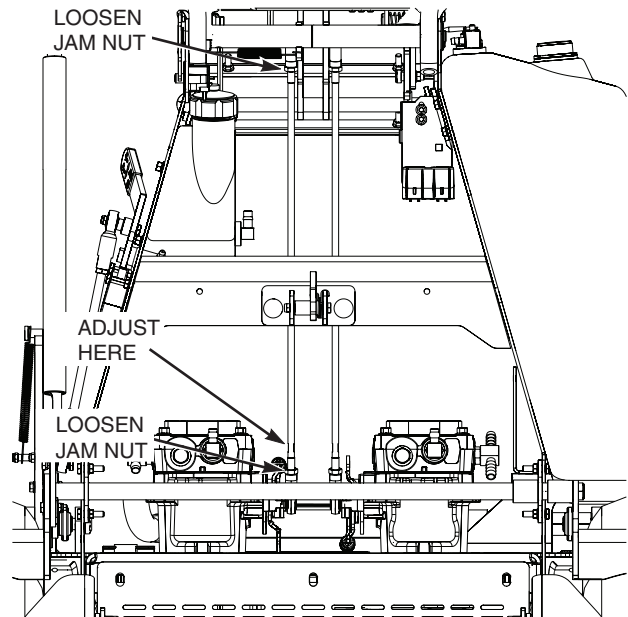

Figure 6-3. Tracking Adjustment Left Side
5. Repeat for the LH wheel. See Figure 6-3.
A. Stop the machine and place the steering control levers in the neutral position. Loosen the lock nuts securing the ball joints at each end of the LH steering control rod. Rotate the control rod to lengthen the rod and tighten the lock nuts. This will cause the control rod to stroke the LH pump less, slowing down the LH wheel. See Figure 6-3.